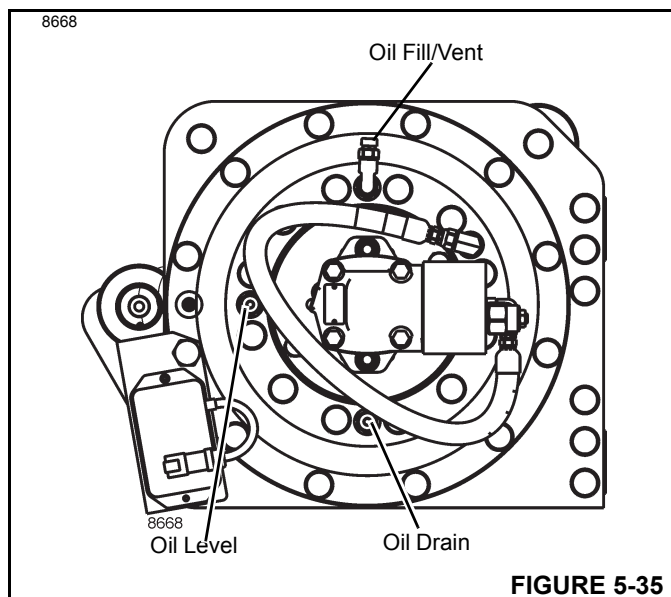

FIGURE 5-35
2. Clean around the oil fill/vent. Remove the oil fill/vent (Figure 5-35) and clean it in a suitable solvent.
3. Clean around the oil level plug (Figure 5-35) and remove the plug.